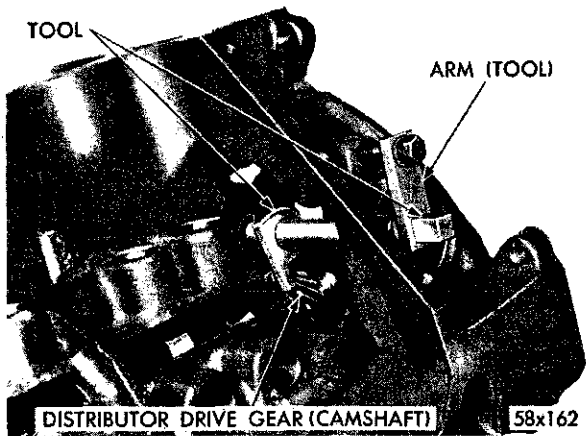

Fig. 29—Camshaft Holding Tool C-3509
(1) Lubricate the camshaft lobes and camshaft bearing journals and insert the camshaft to within 2 inches of its final position in the cylinder block.
(2) Modify Tool C-3509 by grinding off the index lug holding the upper arm on the tool and rotate the arm 180 degrees.
(3) Install Tool C-3509 in place of the distributor drive gear and shaft, as shown in Figure 29.
(4) Hold the tool in position with the distributor lock plate screw. This tool will restrict the camshaft from being pushed in too far and prevent knocking out the welch plug in the rear of the cylinder block. The tool should remain installed until the camshaft and crankshaft sprockets and timing chain have been installed.